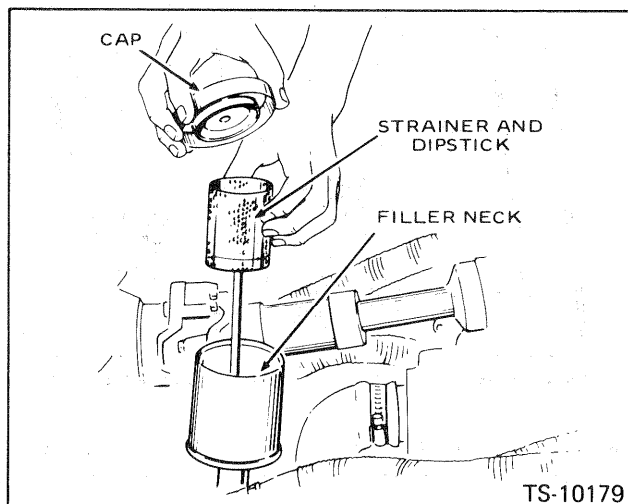

Fig. 9-1 Transmission Filler Neck, Cap, Dipstick and Strainer
Remove the floorboard in the operators compartment. Remove the filler cap from the filler neck, (See Fig. 9-1 for the position of the filler neck). Pull out the strainer and dipstick with a clean, lint free cloth. Re-insert to check the fluid level, pushing the strainer and dipstick down firmly. The fluid level must be at the **FULL** mark on the dipstick. If the fluid level is below the **FULL** mark, re-insert the strainer and dipstick, making sure that the strainer is clean and free from foreign material and fill as necessary.
7. Refill the transmission and torque converter with the type of fluid specified in this manual through the filler neck (Fig. 9-1) until the correct level shows on the dipstick. Approximate capacity — 4.5 gallons (Imperial measure), 5.4 gallons (U.S. measure).
10. Refill the transmission and torque converter restart and run the engine for 5 minutes at approximately 1,500 rpm, checking the filter assemblies, drain plug, hoses and connections for leaks. Recheck the transmission fluid level when it is at operating temperature (180° F. to 200° F.). Add fluid as necessary. Fig. 9-1.